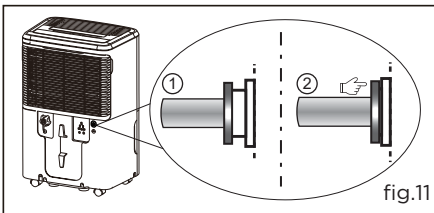

fig.11
- a. Press the tightening ring of drainage joint; (fig.11)